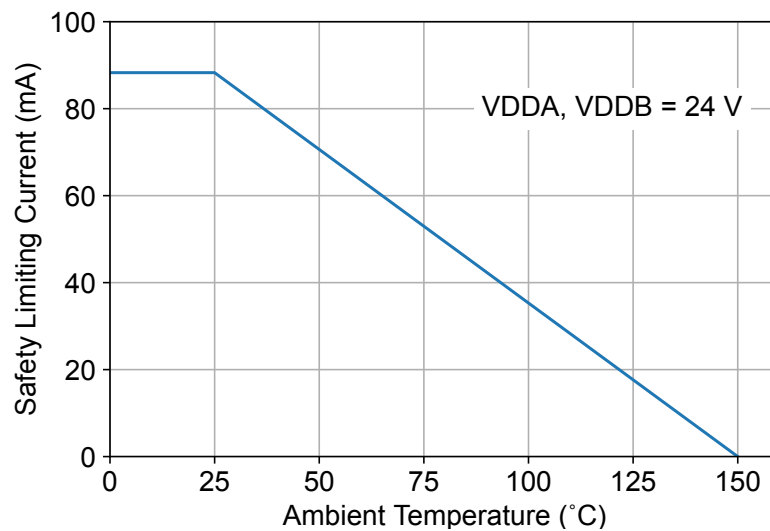
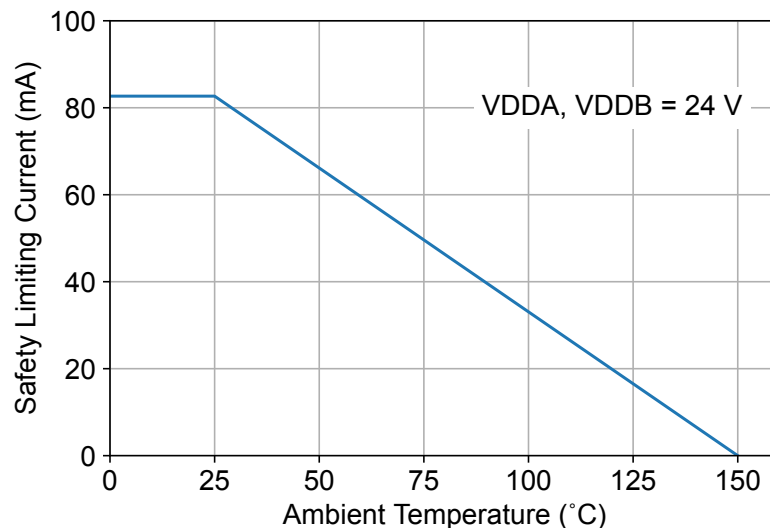

Figure 4.4. WB SOIC-14/16 Thermal Derating Curve, Dependence of Safety Limiting Values
Figure 4.5. NB SOIC-16 Thermal Derating Curve, Dependence of Safety Limiting Values
1. Maximum value allowed in the event of a failure. Refer to the thermal derating curves in Figure 4.4 WB SOIC-14/16 Thermal Derating Curve, Dependence of Safety Limiting Values on page 28 and Figure 4.5 NB SOIC-16 Thermal Derating Curve, Dependence of Safety Limiting Values on page 28 .